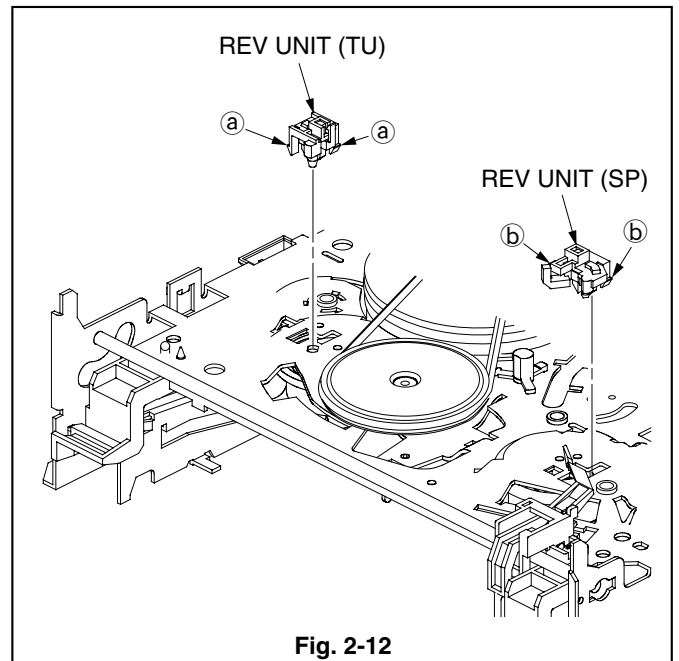

Fig. 2-12
1. Release the two catches (a) of the REV UNIT (TU) shown in the Fig. 2-12 to remove the REV UNIT (TU).
2. Release the two catches (b) of the REV UNIT (SP) shown in the Fig. 2-12 to remove the REV UNIT (SP).
2. Install the REV UNIT (TU) shown in the Fig. 2-12.
3. Clean the dirt on the transparent part of the REV UNIT (SP) with a VIDEO HEAD cleaning cloth.
4. Install the REV UNIT (SP) shown in the Fig. 2-12.